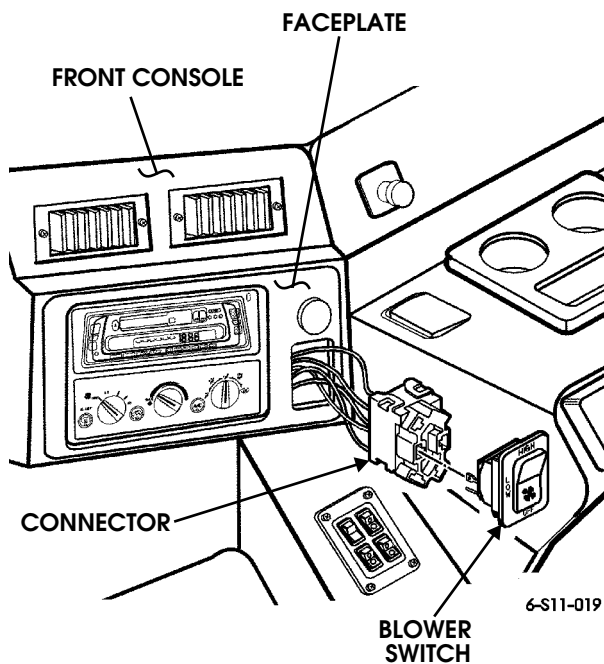

Figure 11-38: Blower Switch Replacement
3. Remove connector from back of blower switch (Figure 11-38).
1. Secure connector to blower switch and check operation (Figure 11-38).